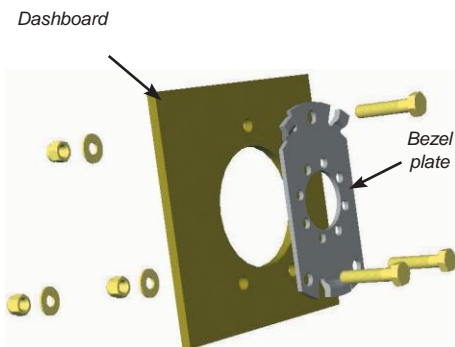

Fig B9 - 90° bezel plate fitted to dashboard
- Fit the bezel plate to the dashboard (Fig B9).